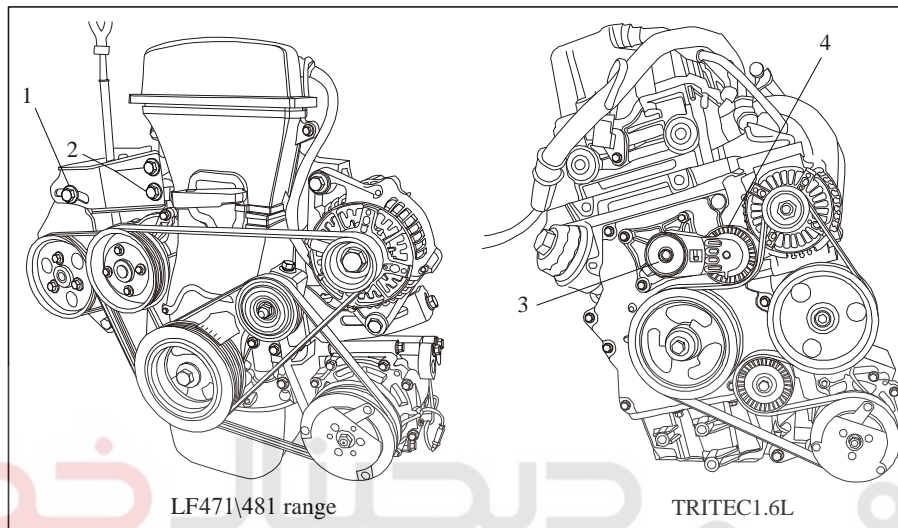

Figure 6-8 Deflection adjustment of transmission belt
1) Unscrew the regulating bolt and fixing bolt of power steering pump (LF481/479 engine) as shown in Figure 6-8.
5) The transmission belt for TRITEC1.6L engine is tightened by means of tension gear and tensioning device as shown in Figure 6-8. After the tensioning device being replaced, in case the transmission belt still doesn't conform to the standard in deflection, then replace the transmission belt.